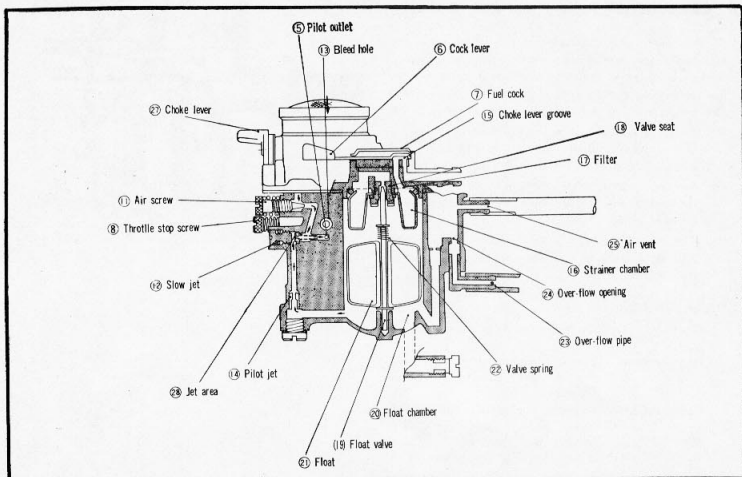

Figure 3-92. Carburetor cross sectional diagram
The fuel enters through the main jet ⑨, and in the main jet, it mixes with the air in the air bleed ⑧ after having been metered by the air jet ⑩. The fuel and air mixture passes through the opening between the needle jet ⑥ and jet needle ④ to be sprayed at the throttle valve ③. The spray mixes with the main incoming air and becomes atomized before being taken into the engine. (Fig. 3-92)